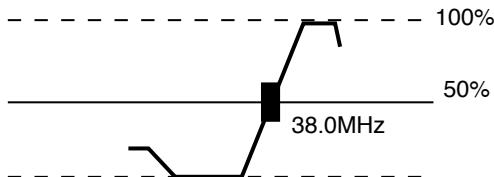

Fig.2: SIF Adjustment waveform
- 4) Adjust SIF COIL (LS12) on SUB Board until the bottom of 38.0MHz mark is on the center line as Fig.2.